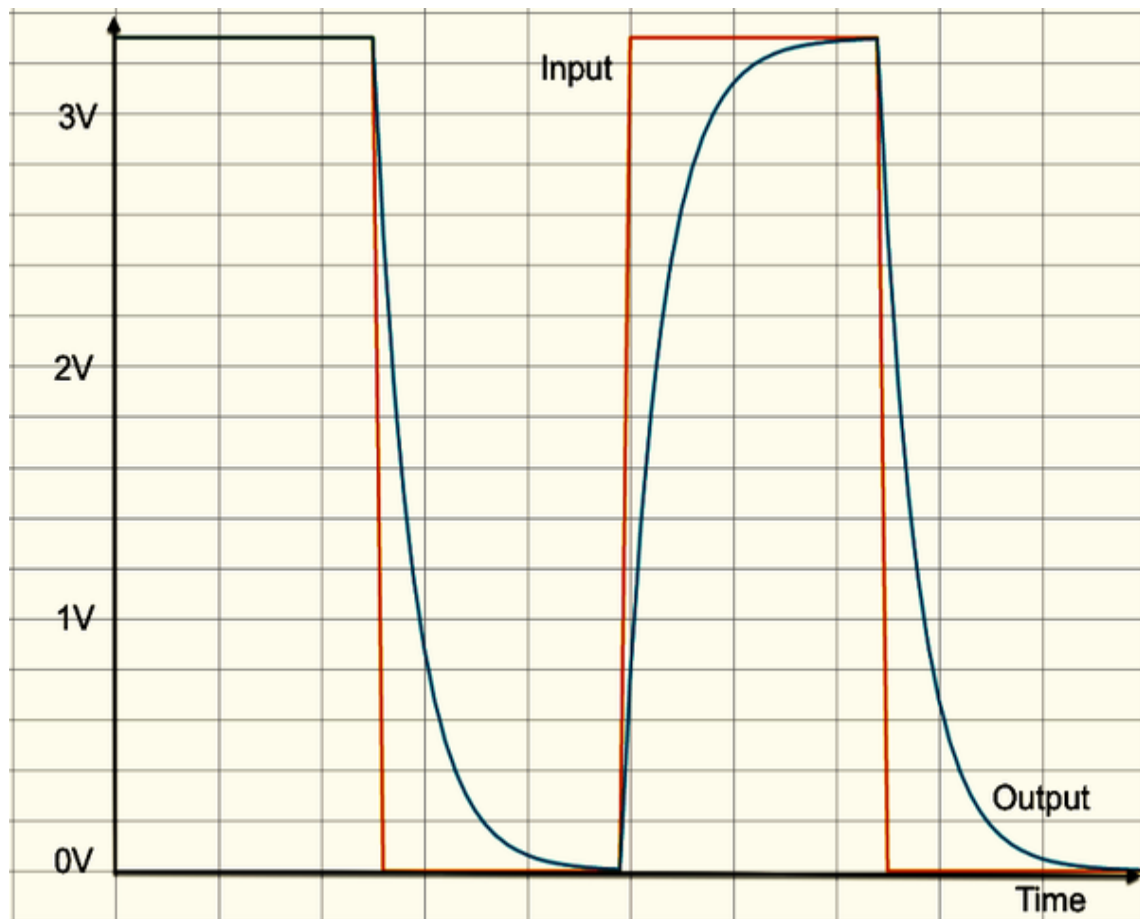

Figure 14-3. Charging and discharging a capacitor
**Figure 14-3** shows how a resistor and capacitor in this kind of arrangement charge and discharge as the voltage is toggled between high and low.